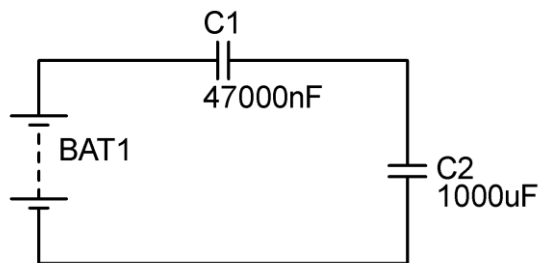

Figure 8 – Circuit 5
b) Find the total capacitance of the circuit shown in Figure 8 below. Show all your working.